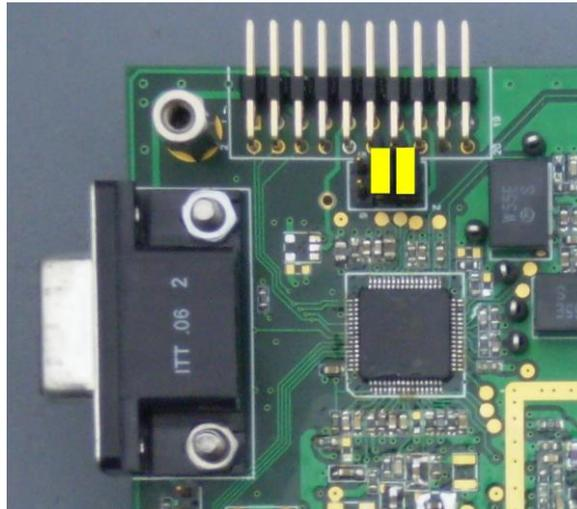

Figure 9 J4 Links 1-2 and 3-4 for RS232 Operation
- Set the J4 links on the DE70321 to RS232 operation (3-4 and 1-2 connected, no jumper across 5-6, see *Figure 9*).